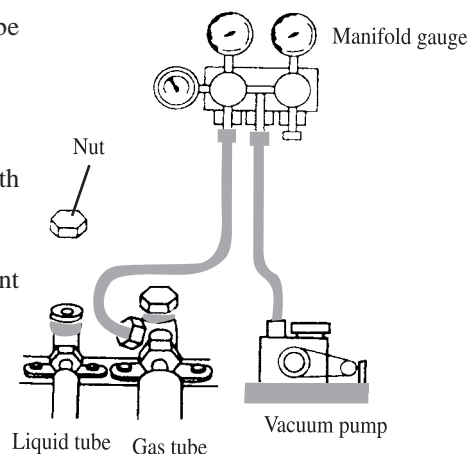

Fig.10
- 10.If possible, discharge air and moisture remaining in the refrigerant system with a vacuum pump. (shown in Fig.10)